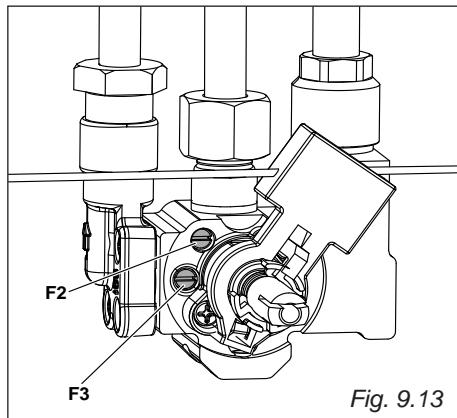

Fig. 9.13
- Using a screwdriver turn the screw "F3" until the correct setting is obtained (fig. 9.13).
- Using a screwdriver turn the screw "F2" until the correct setting is obtained (fig. 9.13).